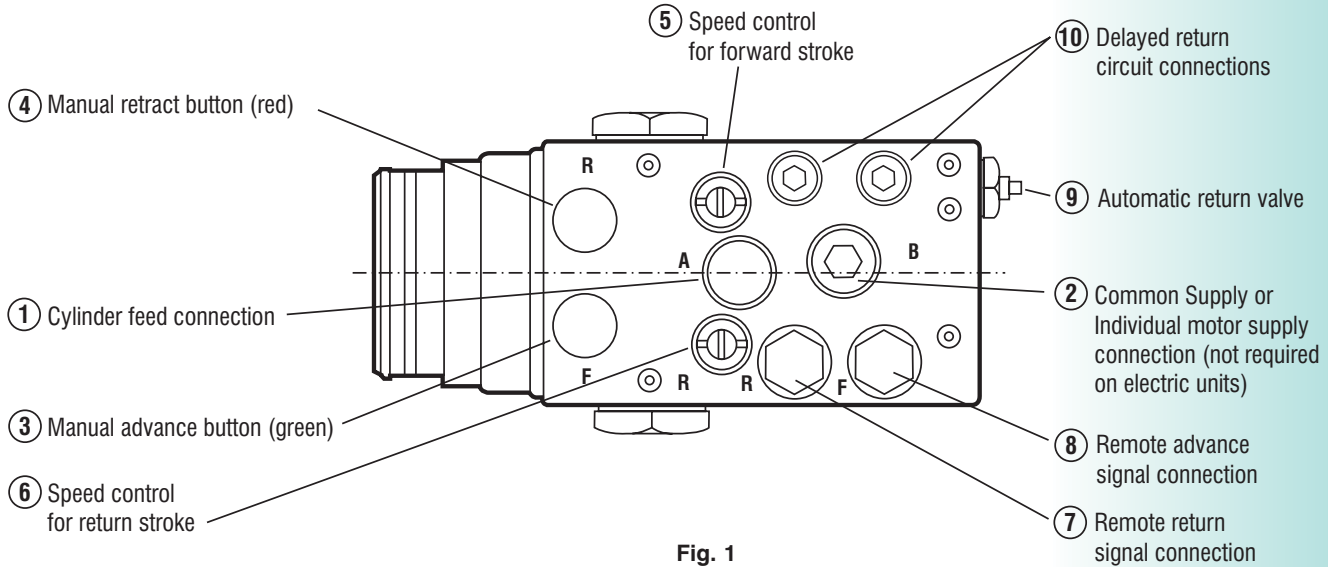

Fig. 1
- A signal 2.7 bar (40 psi) minimum needs to be applied to the remote advance port 8 (Fig. 1).
- A signal of 2.7 bar (40 psi) minimum needs to be applied to the remote retraction port 7 (Fig. 1).
**Note:** The remote advance and retraction signals will exhaust to atmosphere via their respective manual feed buttons (3 and 4, Fig. 1) all the time the signal is
(Adjust 5, forward speed control, Fig. 1 to achieve) where: